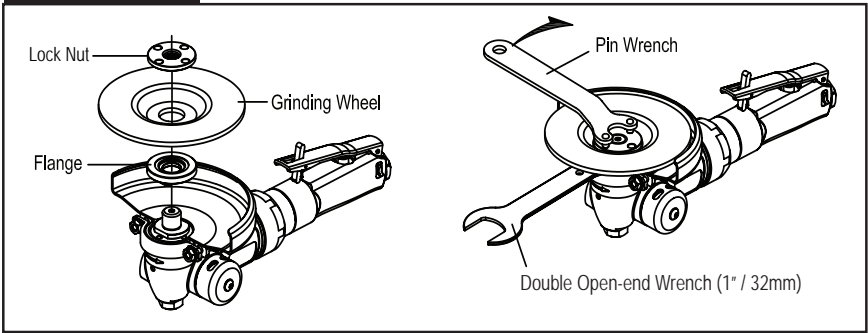
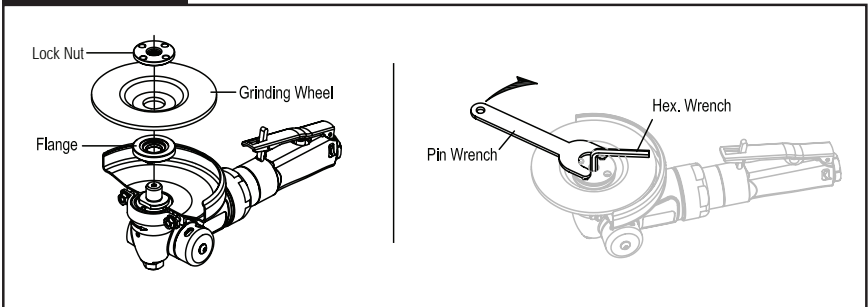

Figure 8
Figure 9
**NOTE:** Mounting of the straight cutting blade onto the PSG-125, follow the procedure in (Figure 8 or Figure 9) as shown above.